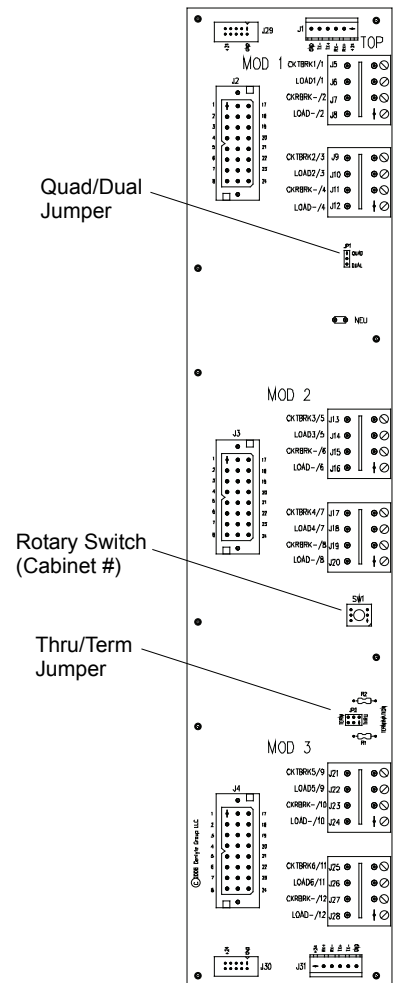

Figure 10: Backplane PCB
- Step 1. Set rotary switch of first Backplane to 0. (Refer to **Figure 10.**)